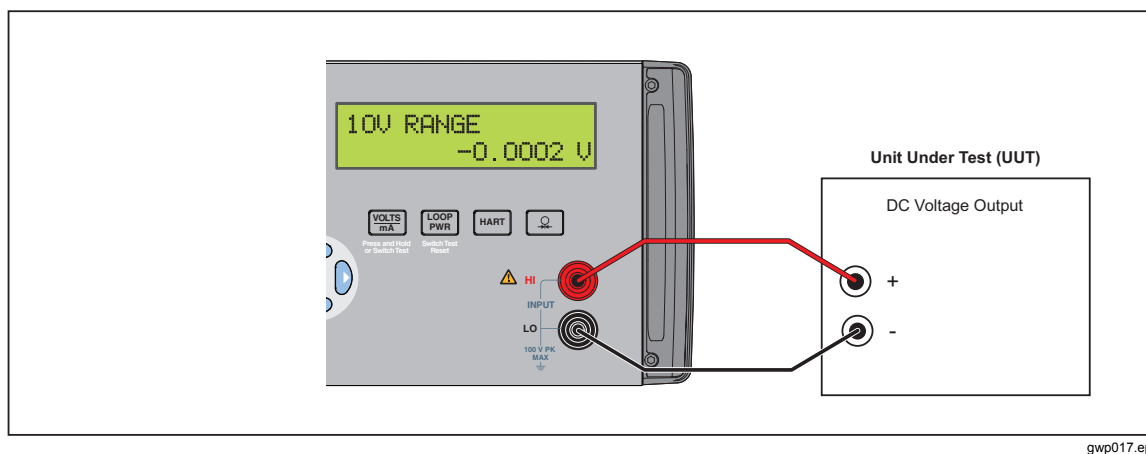

Figure 3-1. Isolated DC Voltage Input Connection
3. Connect the unit under test (UUT) to the isolated voltage/current input terminals of the Product as in Figure 3-1.